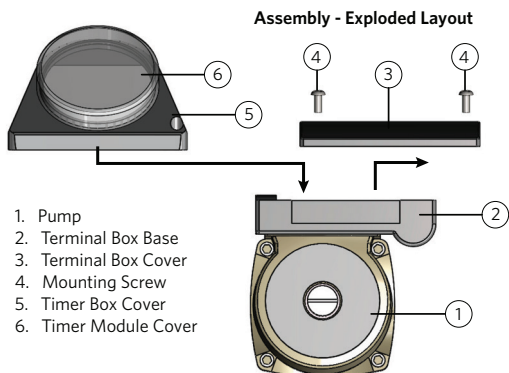

FIG. 1 - Astro 2 series circulator and 24-hour timer assembly drawing
**Note:** Numerical component designations included in Steps 1 through 8 refer to circulator and timer components shown in FIG. 1. Steps 1 & 3 apply to retrofit installations.
**Note:** Numerical component designations included in Steps 2 through 8 refer to circulator and timer components shown in FIG. 1.
- 2 Unfasten the mounting 2 screws (4) and remove the terminal box cover (3).